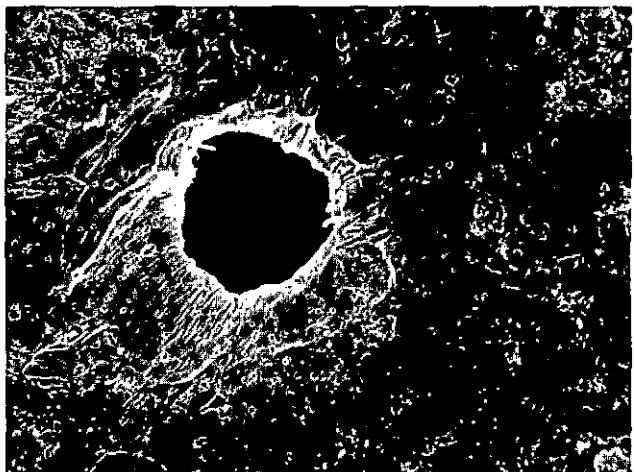

Fig. 3-11, (F60296). Injector cup hole after being wire brushed (enlarged)
- c. Enlarged or distorted spray holes: This is caused by wire brushing, cleaning with drills or other instruments and high mileage, Figs. 3-11.